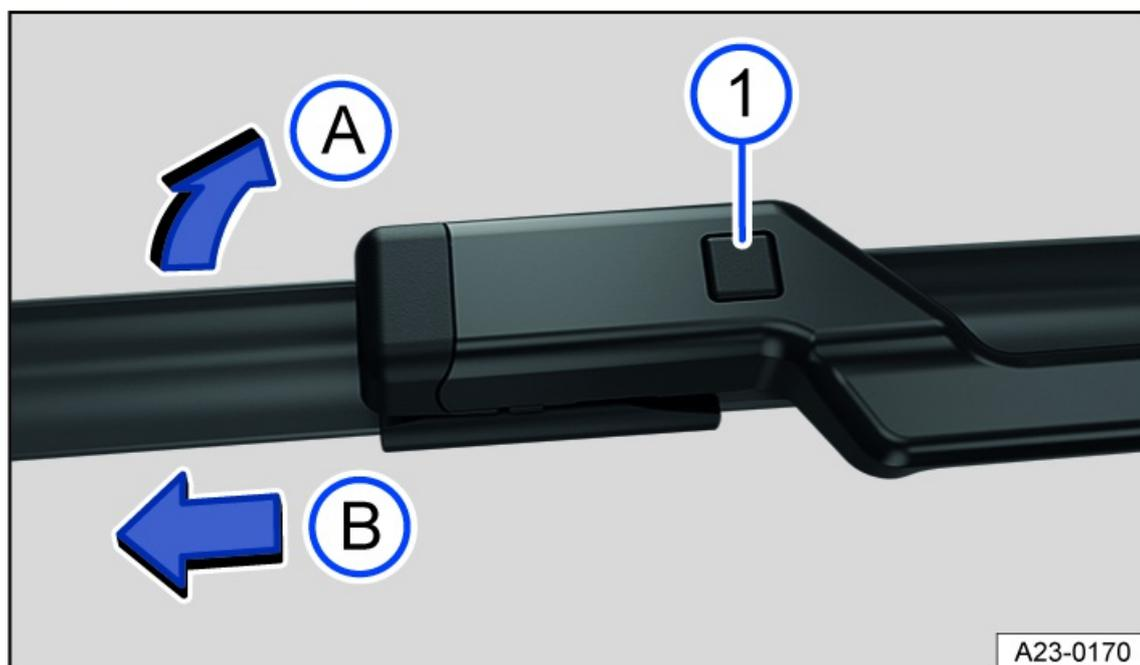

Fig. 147 Changing the windshield wiper blades.
① Wiper blade release button.
3. Press and hold the release button *fig. 147* ①.
4. Tilt the wiper blade toward the wiper arm *fig. 147* ① while removing it in the direction of the arrow ②. You may need to use more force to do this.
5. Slide a new wiper blade with the same length and design onto the wiper arm in the opposite direction to the arrow until it engages *fig. 147* ②. For this to work, the wiper blade has to be folded out *fig. 147* ①.